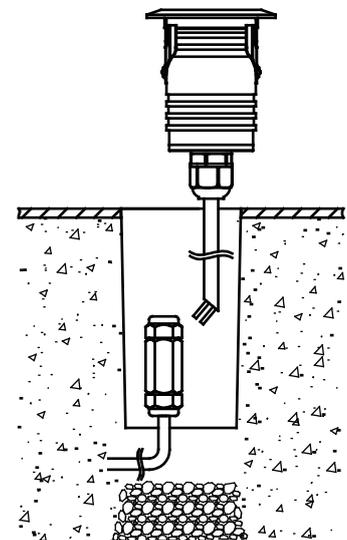

Fig 2.3
2.3 Connect the light fixture cable to the junction box. (See Fig 2.3)